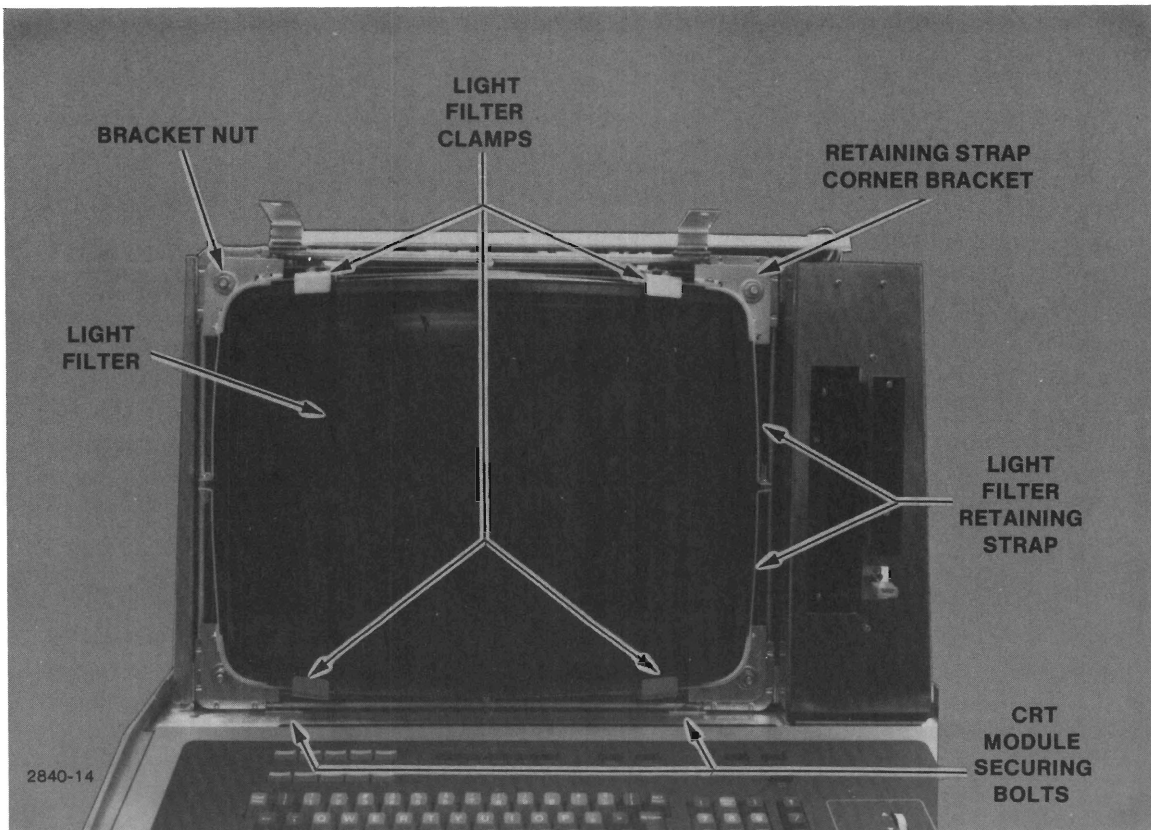

Figure 3-25. Light Filter Brackets and Hardware.
1. Loosen and pull out the lower light filter clamps. See Figure 3-25.
5. Remove two securing bolts from the chassis just under the lower edge of the crt screen. See Figure 3-25.